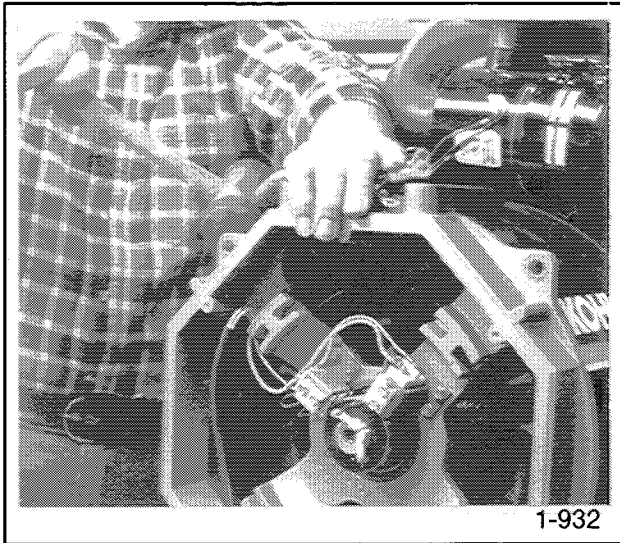

Figure 8-10. Removing the End Bracket
19. Remove the end bracket by bumping with a soft rubber mallet on end bracket flanges. See Figure 8-10.